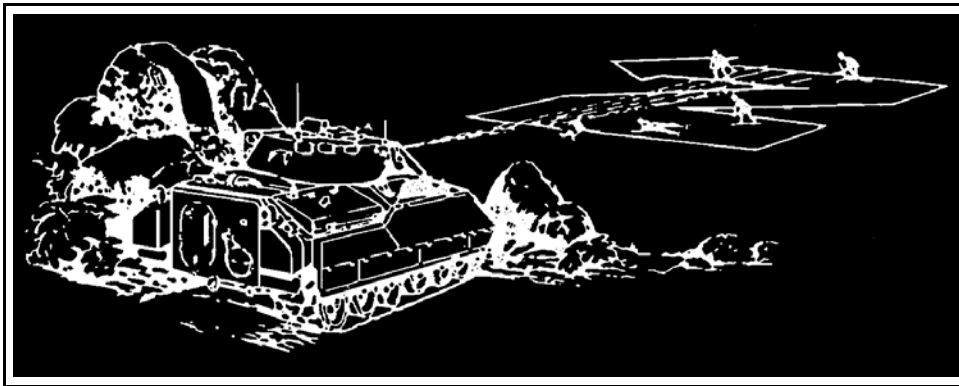

Figure 7. Z pattern of fire.
11. Sense tracers and adjust 20- to 25-round bursts onto the target area in a Z pattern from the near to far edge of the target until the target is destroyed or suppressed, or until CEASE FIRE is given by the Bradley commander (Figure 7, page 3-188).